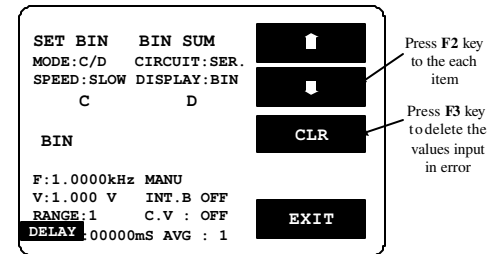

Figure 8-12
- Press CLR key. Please refer to Figure 8-12 below.